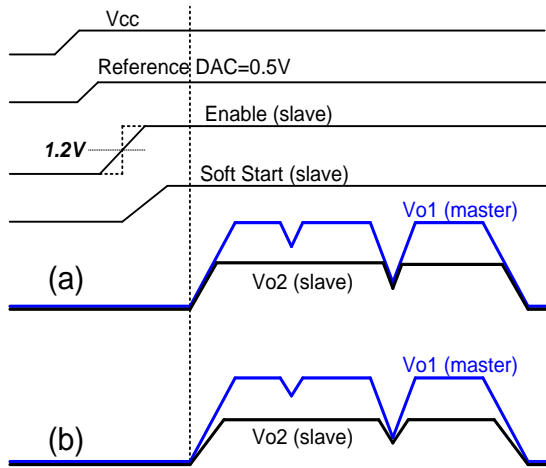

**Figure 26: Application Circuit for Simultaneous and Ratiometric Sequencing**
Tracking and sequencing operations can be implemented to be simultaneous or ratiometric (refer to Figure 27 and Figure 28). Figure 26 shows typical circuit configuration for sequencing operation. With this power-up configuration, the voltage at the  $V_p$  pin of the slave reaches 0.5V before the Fb pin of the master. If  $R_E/R_F = R_C/R_D$ , simultaneous startup is achieved. That is, the output voltage of the slave follows that of the master until the voltage at the  $V_p$  pin of the slave reaches 0.5 V. After the voltage at the  $V_p$  pin of the slave exceeds 0.5V, the internal 0.5V reference of the slave dictates its output voltage. In reality the regulation gradually shifts from
Vp to internal DAC2. The circuit shown in Figure 26 can also be used for simultaneous or ratiometric tracking operation if the  $\overline{\text{Track\_En}}$  pin of the slave is connected to LGND. Table 4 summarizes the required conditions to achieve simultaneous / ratiometric tracking or sequencing operations.
**Table 4: Required Conditions for Simultaneous / Ratiometric Tracking and Sequencing (Figure 26)**